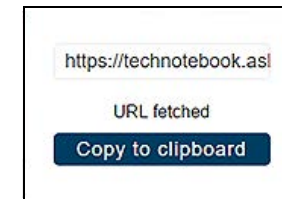

Figure 12-13
1. Select the **Menu icon** (*Figure 12-13*) from the upper toolbar.
3. Select **Copy to Clipboard** (*Figure 12-13*) from the pop-up window.
The Favorites screen displays all the reports selected as favorites (Figure 12-13).